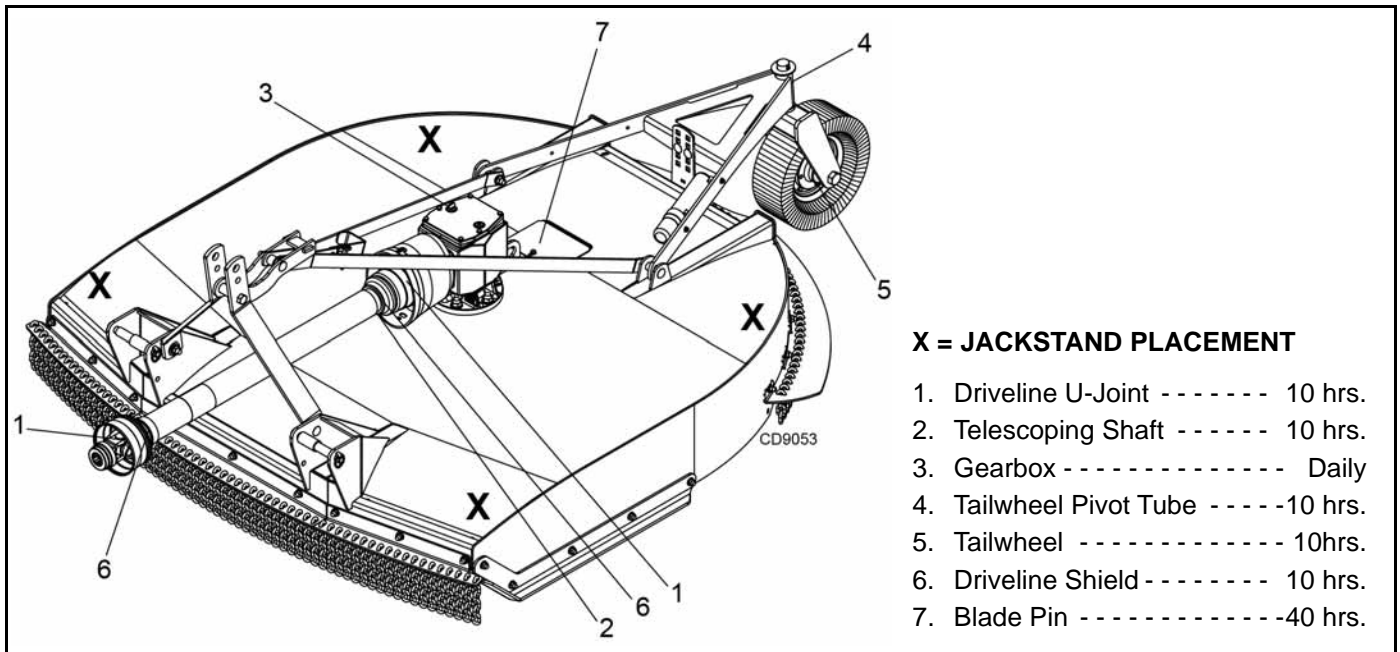

Figure 12. Jackstand Placement and Lubrication Points
1. Jackstands with a load rating of 1000 lbs or more are the only approved blocking device for this cutter. Install a minimum of four jackstands (shown by Xs in Figure 12) under the cutter before working underneath unit.
2. See Figure 12 for lubrication points and frequency or lubrication based on normal operating conditions. Severe or unusual conditions may require more frequent lubrication.
■ If blade pin (7) is seized in crossbar and extreme force will be needed to remove it, support crossbar from below to prevent gearbox damage.
2. Raise cutter and block securely (see **Blocking Method, Figure 12**).
3. Open blade access cover and align crossbar assembly (2) with blade access hole in the cutter frame. Remove cap screw (13) blade pin lock clip (12) keyhole plate (11) and shims (8, 9 & 10). Carefully drive blade pin out of crossbar.
3. Loosen six 12 mm cap screws (7) to remove all tension from the compression springs (5).
4. Hold clutch hub (3) solid and turn shaft to make sure clutch slips.
5. If clutch does not slip freely, disassemble and clean the flange yoke (1), clutch hub (3), drive plates (4 & 5), and thrust plate faces (6).
7. Compress each of the six compression springs (8) by tightening the six cap screws (7) and lock nuts (10). The compression springs should be compressed to a height of 1-7/16", not including washer (9). The minimum spring height is 1.36". See Figure 12.
8. If a clutch continues to slip when the springs are compressed to 1.36", check friction discs (2) for excessive wear. Discs are 1/8" when new. Replace discs after 1/16" wear.